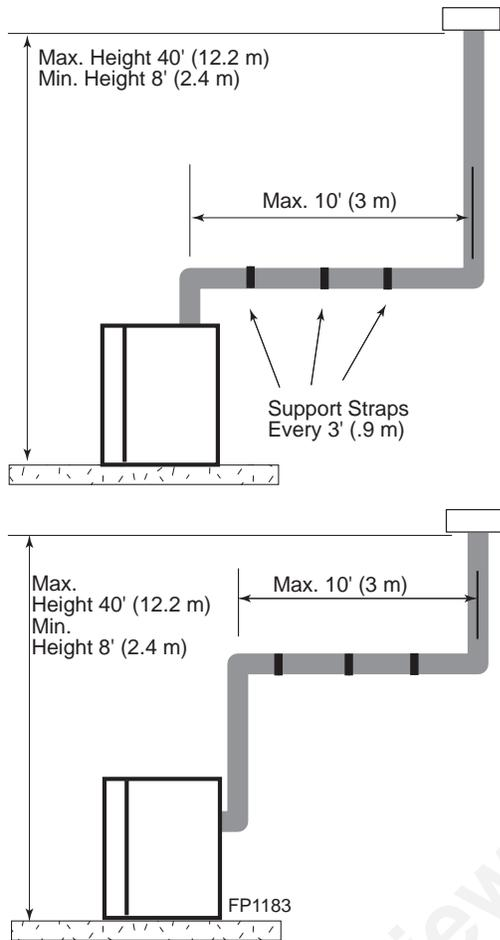

Figure 45 – Support Straps for Horizontal Runs
- Vertical installations up to 40' (12 m) in height. Up to a 10' (3 m) horizontal vent run can be installed within the vent system using a maximum of two 90° elbows. *Figure 45*